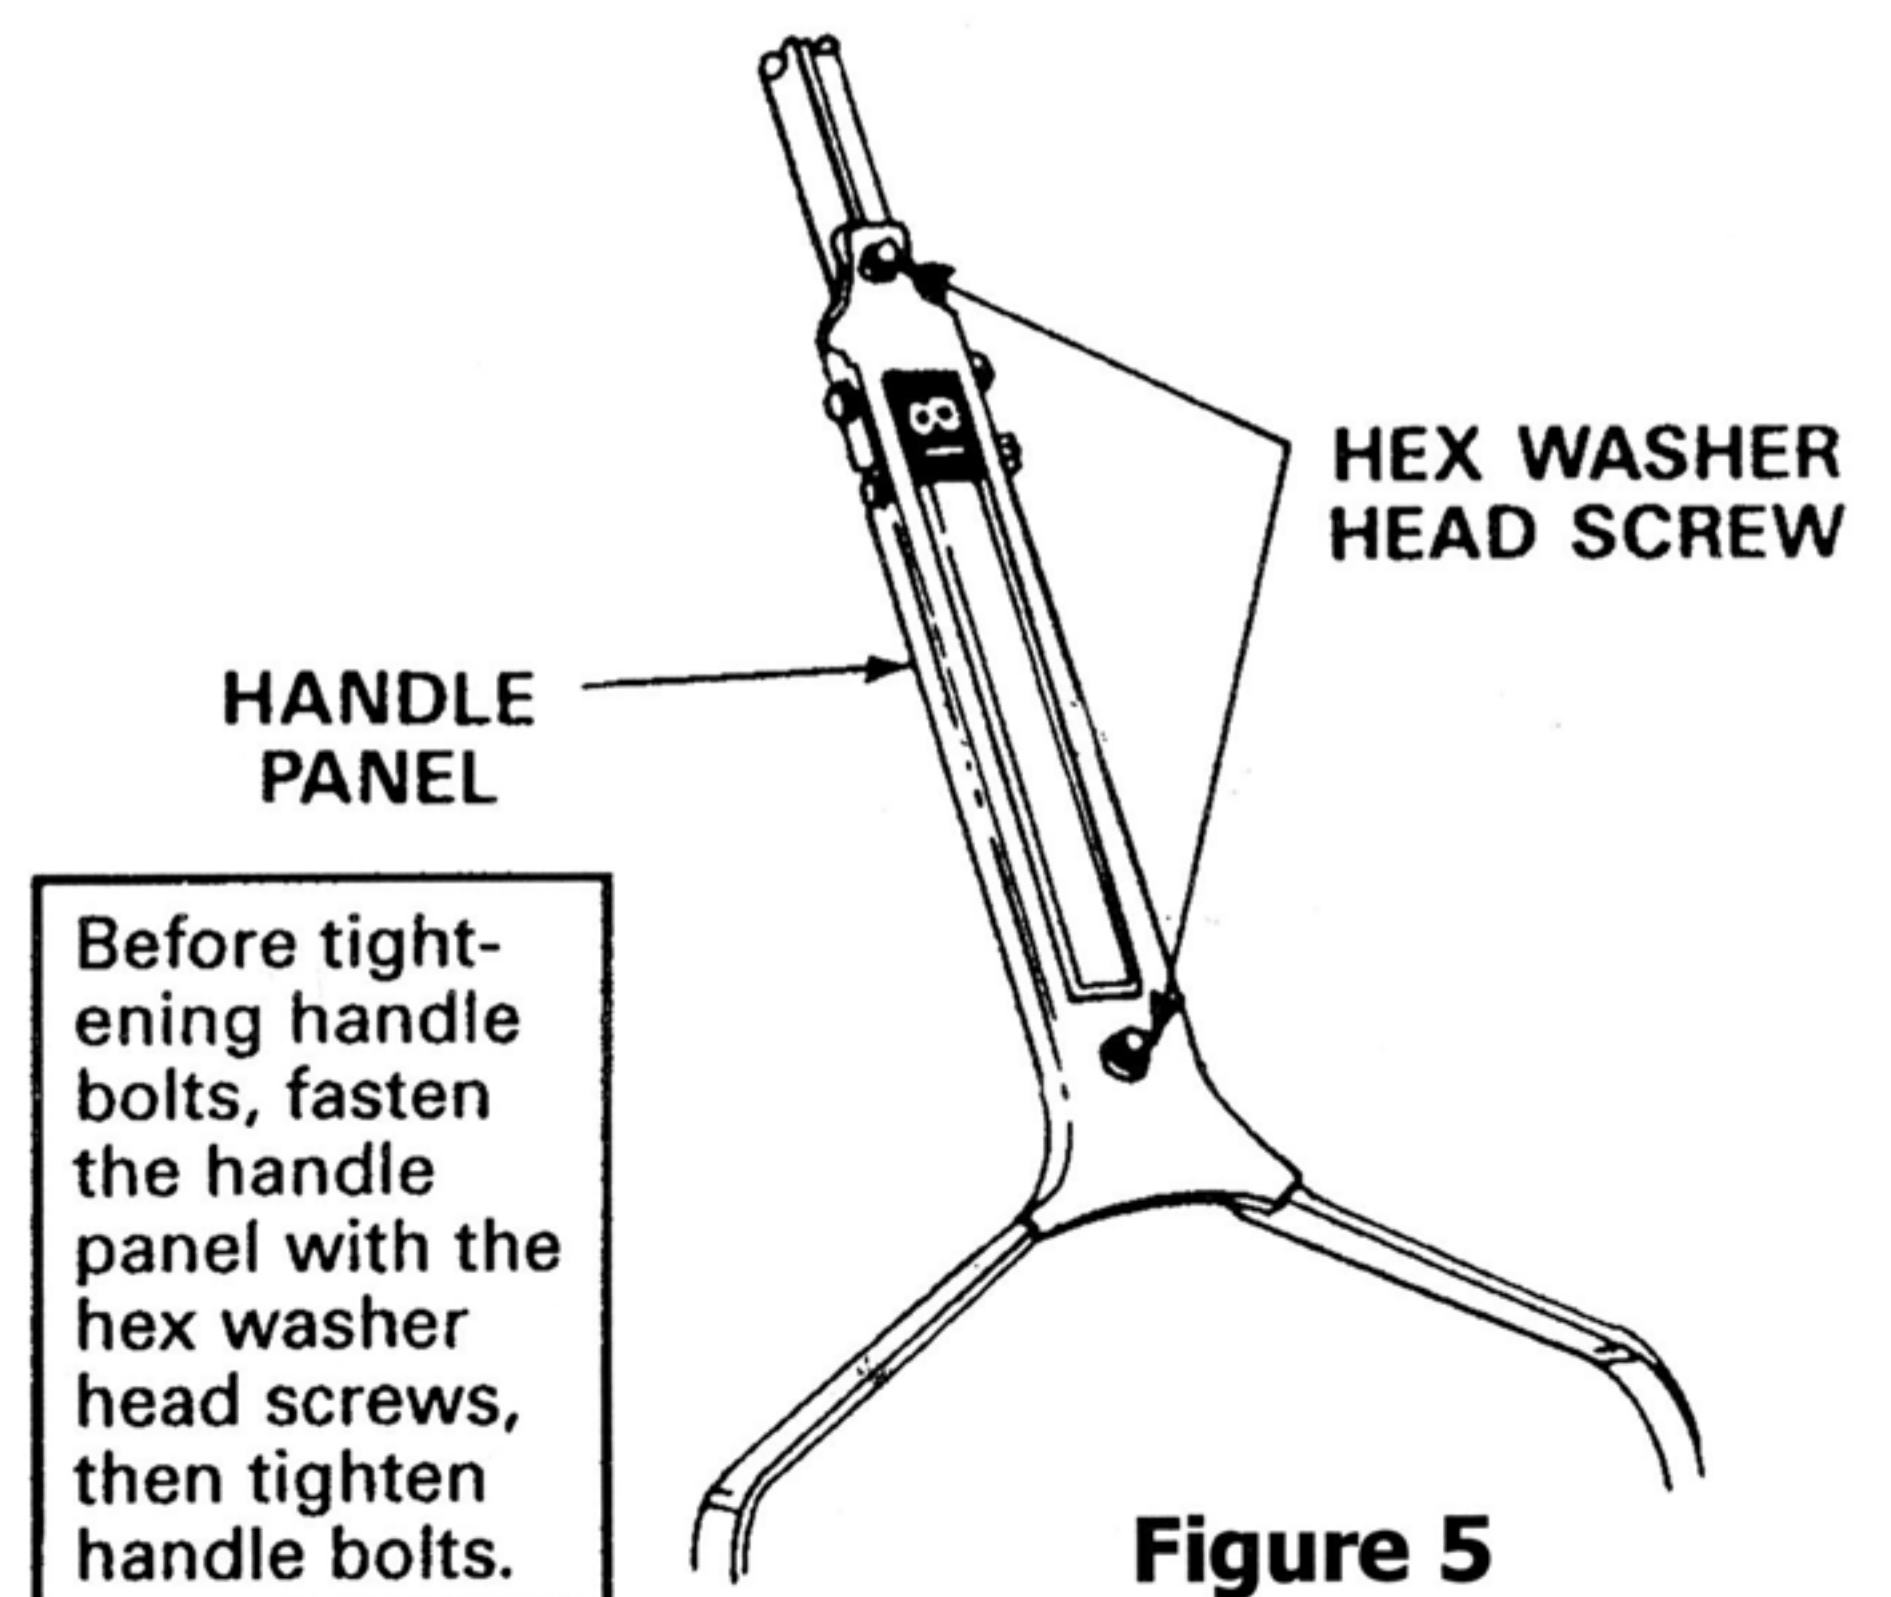

Figure 5
5. Assemble the #12 x 1 inch hex washer head screw that goes into the handle panel and into the spacer. Place the handle panel over the handle so that the screw is lined up with the notch between the two upper handles as shown in figure 5.